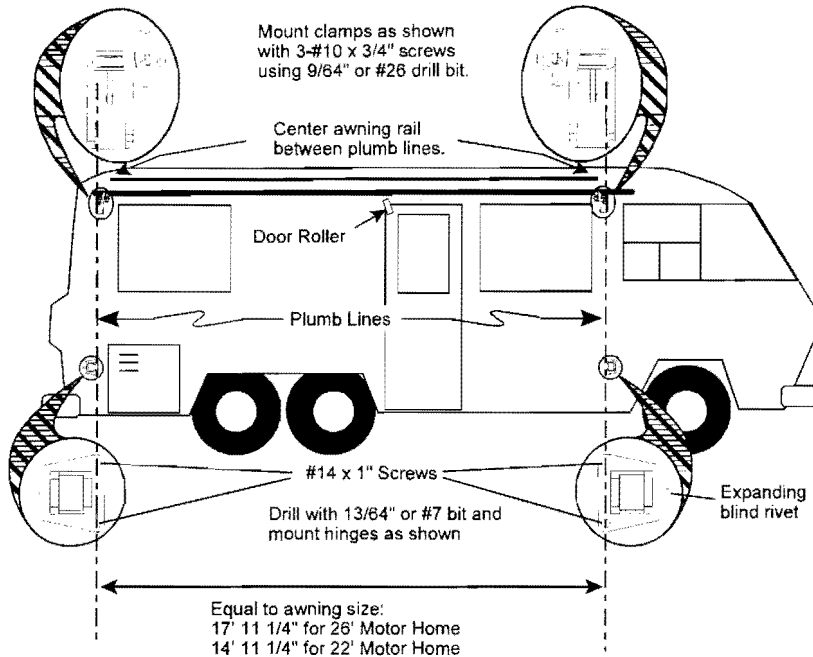
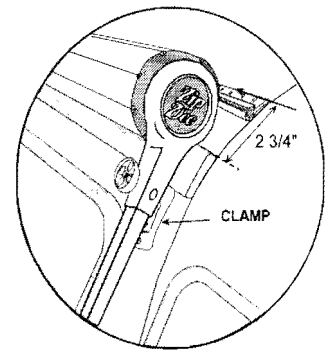

Fig. 3
Fig. 4a
Fix the position of the rear arm first. Mark the rear plumb reference line 1/2" from the rear edge of the compartment as shown in **Fig. 3**. Then **measure forward the Exact length of the awning ordered** and mark the front plumb line.
Place rail with the top edge 2 3/4" above the top molding as shown in **Fig. 4a & b**. Rail should be centered between the two plumb lines. Be sure that running light wire is flat under awning rail. Attach rail with appropriate
A) Attach front Head casting to front main arm. Attach Clamp Casting assembly on to head (wheel screws onto threaded stud of clamp and fit into chaffered seat of head. Hold assembled arm firmly against the coach so that the clamp is butted against the bottom of the drip molding as shown in **Fig. 4a & 4b** and so that the hinge and clamp are aligned on the plumb line as shown in **Fig. 3**. Mark location of clamp and hinge. Remove the clamp and hinge from the hardware and mount as shown. Repeat step for rear arm.